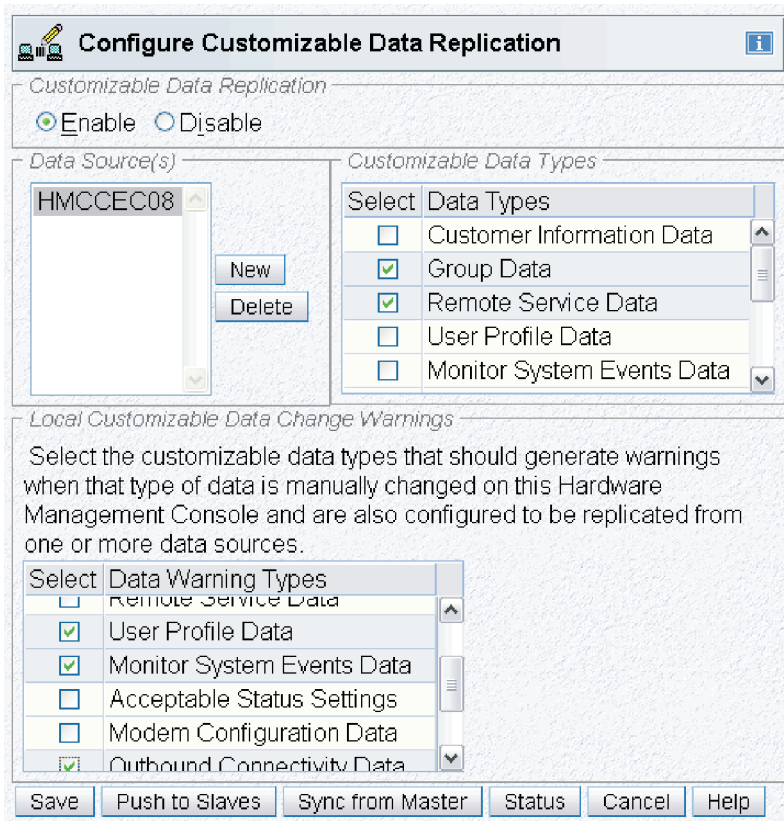

Figure 66. Configure customizable data replication window - example 2
- The Configure Customizable Data Replication window is displayed again as shown in Figure 66.